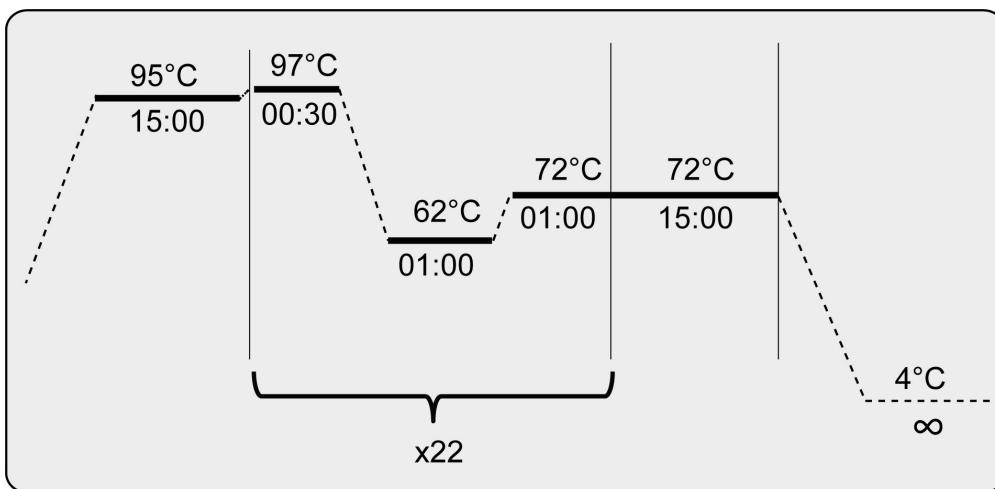

Figure 5. Thermal profile PCR1
- Program the thermal cycler according to the PCR1 thermal profile in figure 5